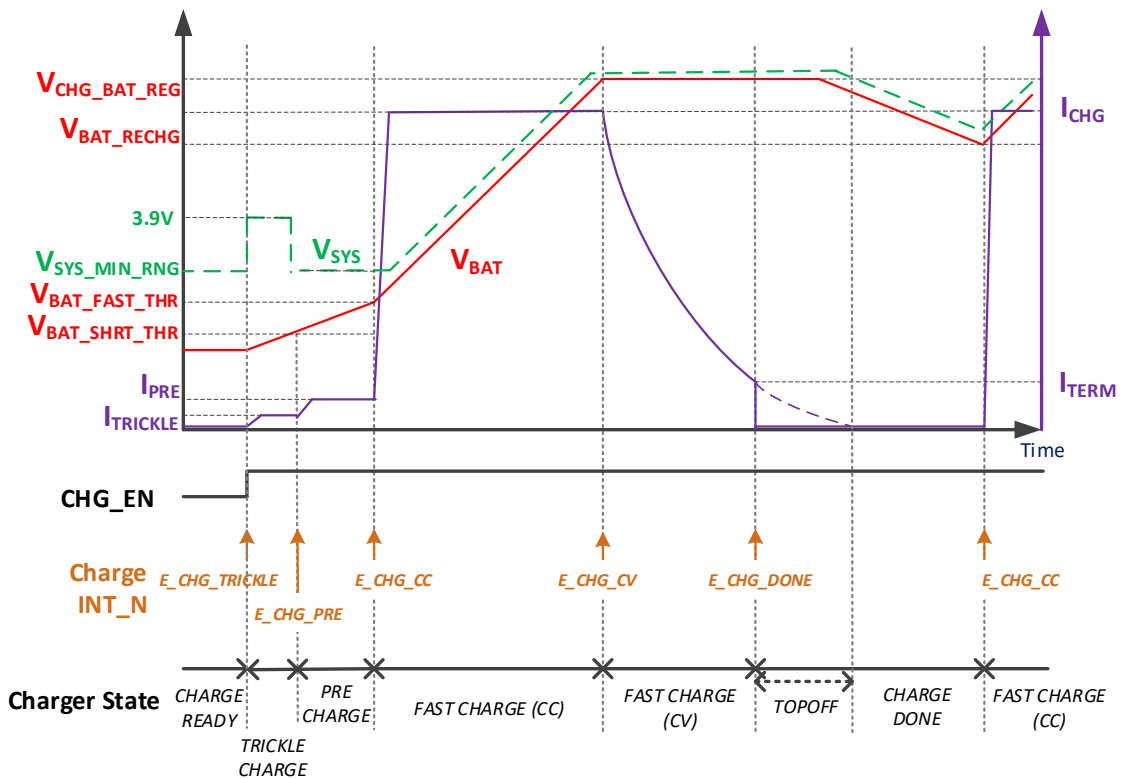

Figure 10: Charger Profile, State, and INT_N (Event)
The device charges the battery in three phases based on battery voltage: pre-charge, fast charge constant current (CC), and constant voltage (CV). These charge phases and status transitioning from the **charge ready** to **charge in progress** to **charge done** are shown in the typical charging profile in Figure 10.